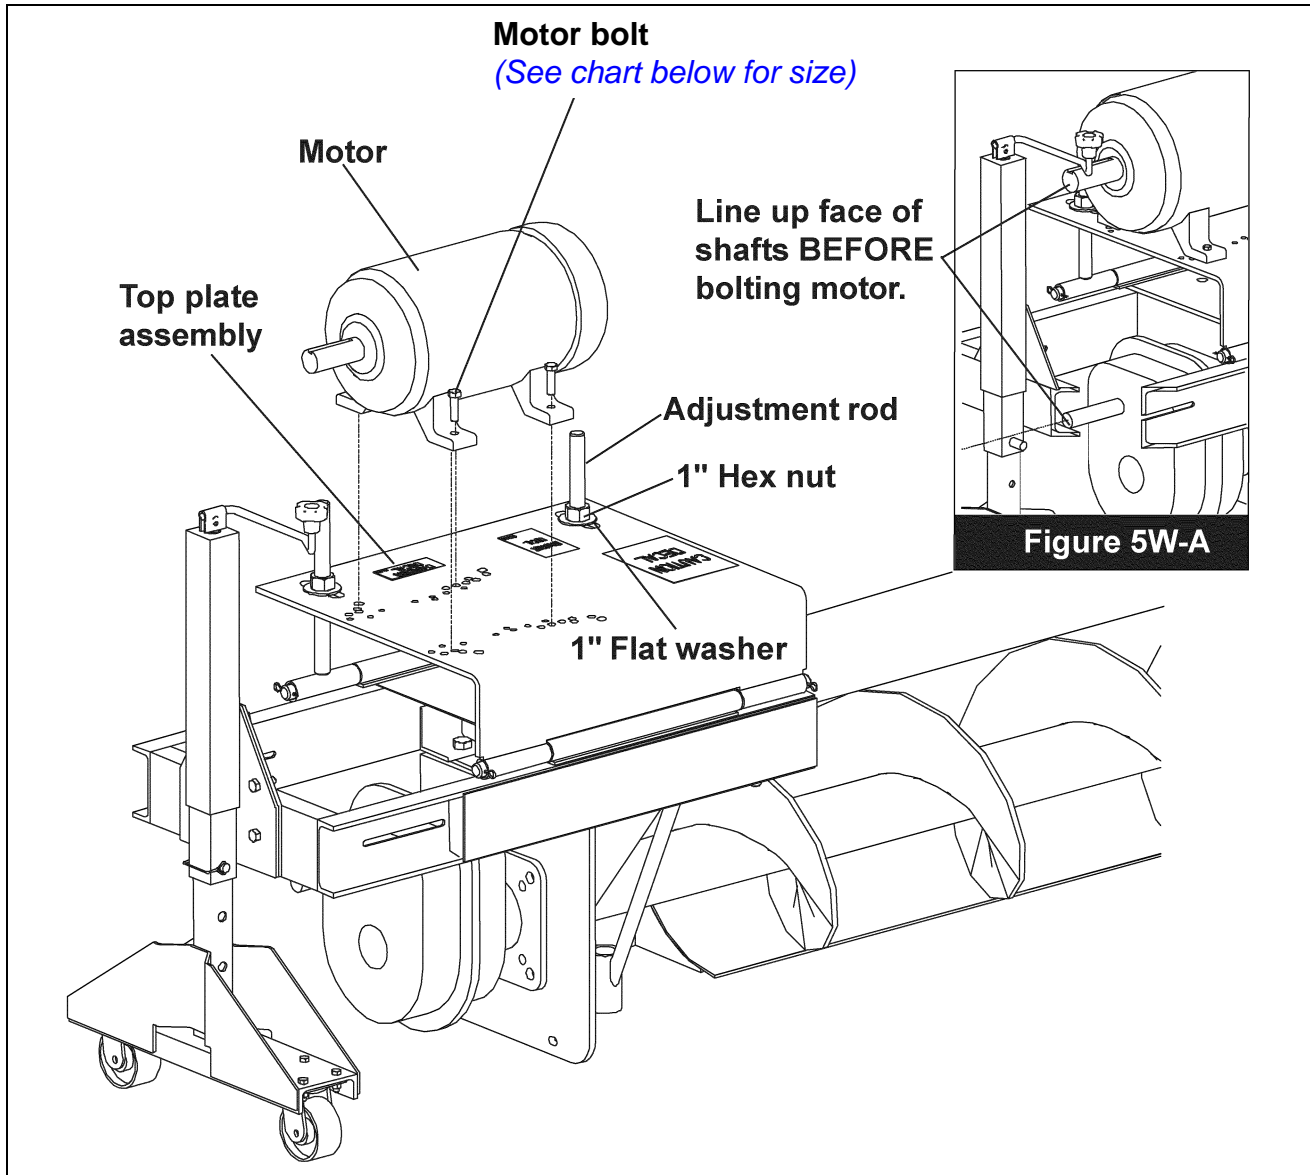

Figure 5W
- A. Level the Top Plate Assembly by adjusting the 1" nuts and washers on the adjustment rods. (See Figure 5W)
- B. Line up the end face of the shafts as closely as possible before bolting motor to mounting plate. (See Figure 5W-A)